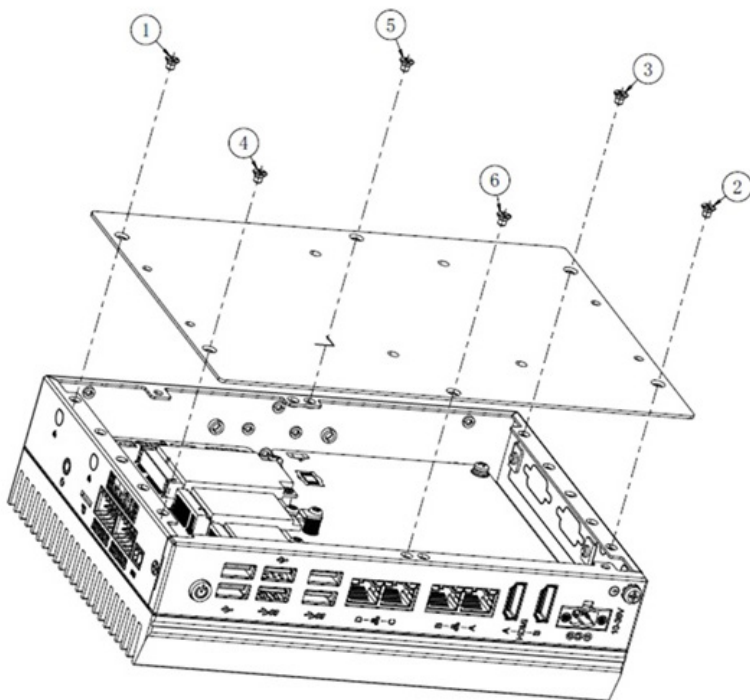

Figure 3.1-1 Installation and Maintenance
1. Remove 6 screws from the bottom cover, as shown in Figure 3.1-1.